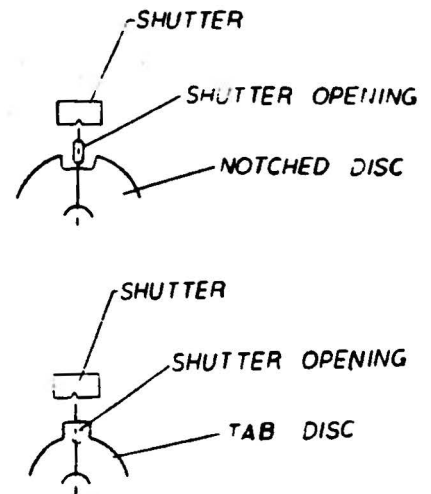

FIG. 4
1. Rotate handwheel in counterclockwise direction until needle bar is at the bottom of its stroke. Remove synchronizer protective cover (A) and loosen set screw (B) by approximately one half turn. Rotate notch disc (C) until the opening of the notch is centered over the shutter opening (Fig. 4). Tighten set screw.
2. Now rotate handwheel until take-up is on its up stroke and is approximately 1/8 inch from the top of its stroke. Loosen set screw (B) and turn tab disc (D) until the tab is centered over the shutter opening (Fig. 4) while using caution not to change the setting of notch disc. Tighten set screw.